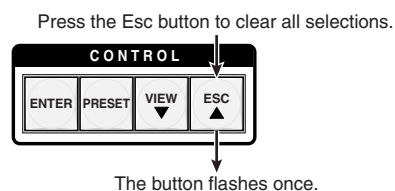

Figure 3-35 — Clear all selections
1. Press and release the Esc button (figure 3-35).